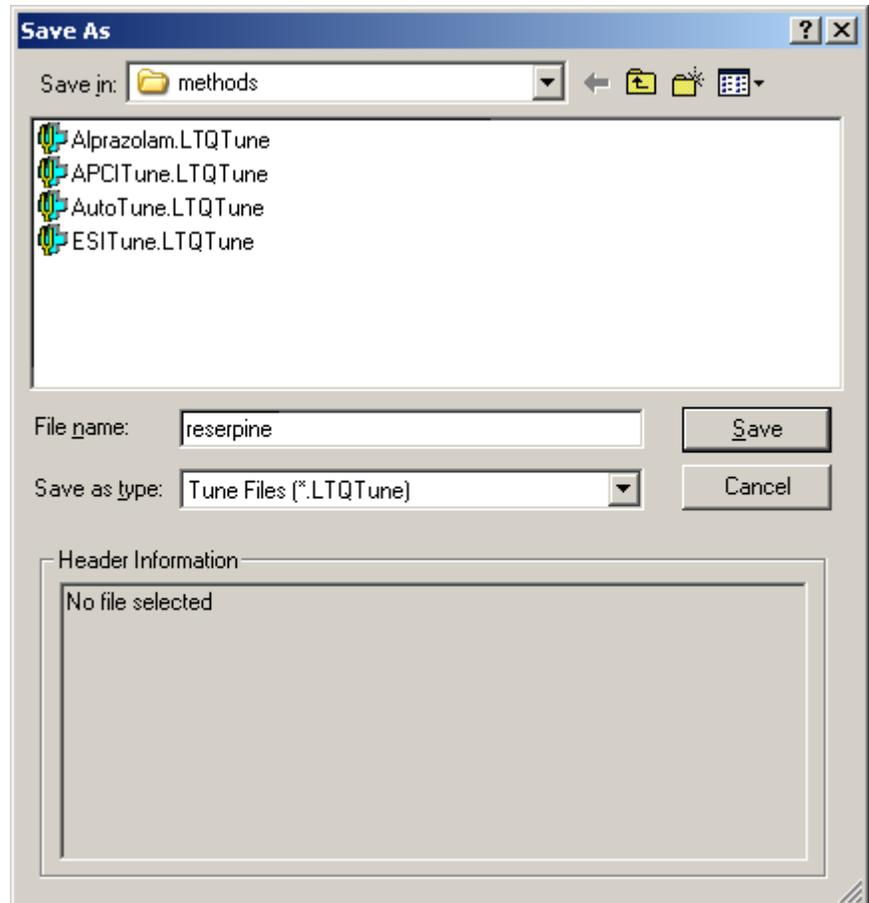

Figure 36. Save As dialog box, showing files in the folder C:\Xcalibur\methods
1. Choose **File > Save As** to display the Save As dialog box. See Figure 36.